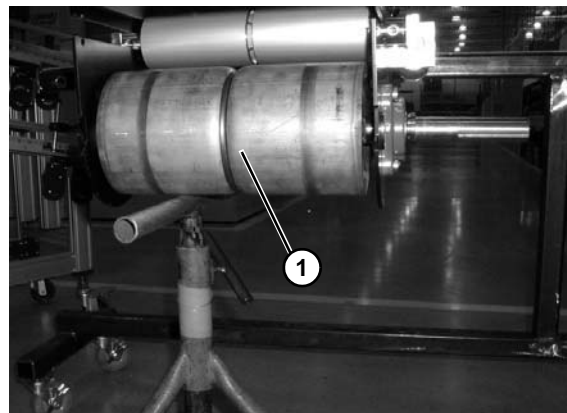

Figure 120
8. Temporarily support the drive pulley (**Figure 120, item 1**).